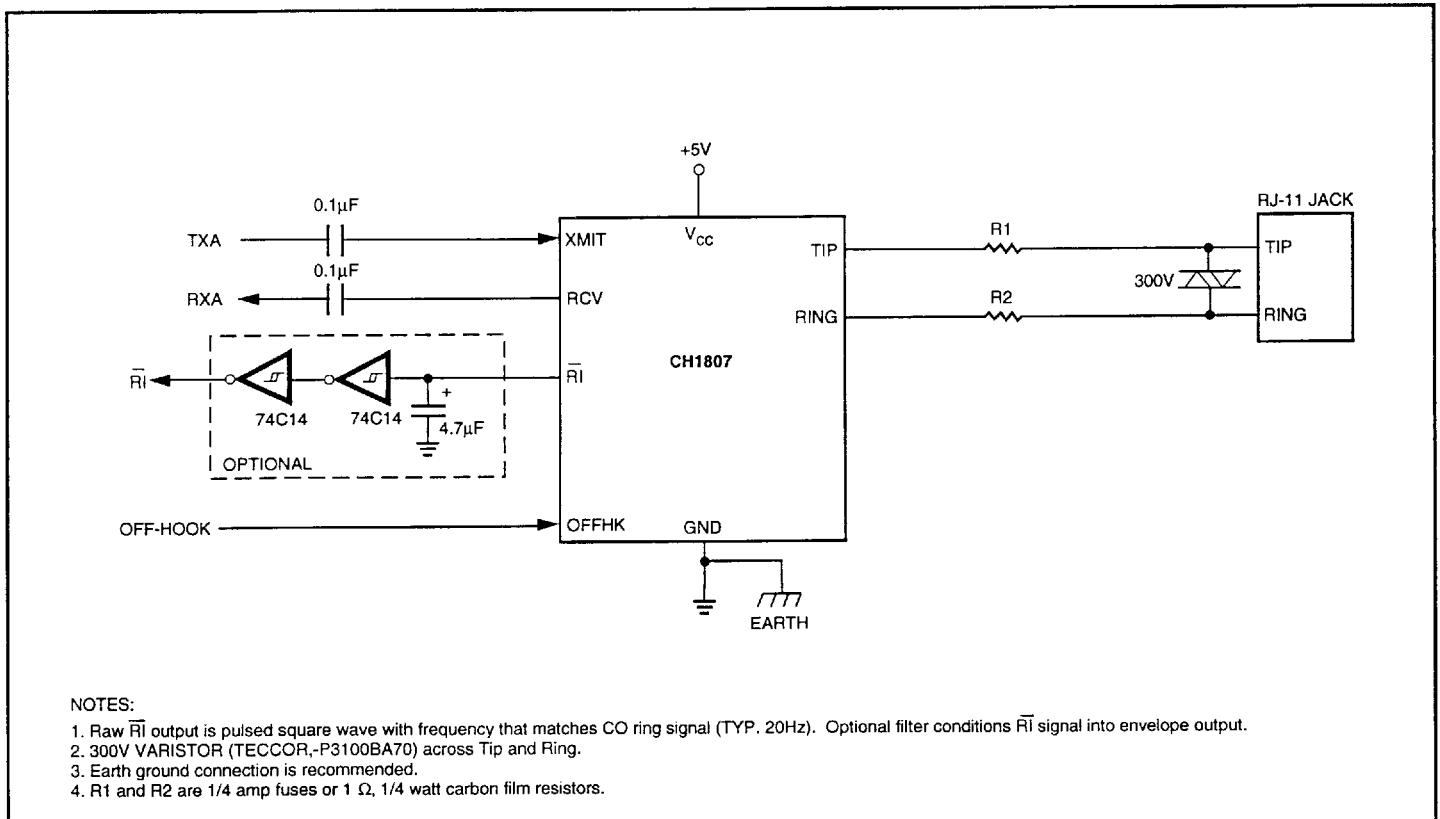

Figure 2. Typical Application
The outgoing DTMF signal to be transmitted through the phone line should be applied to the XMIT pin (with respect to GND) and must be AC coupled as shown in Figure 2. The DAA attenuates the transmit signal by 6.5 dB. Therefore, a transmit signal of 0 dB applied to XMIT will comply with the FCC Part 68 requirement for control signals of -6 dBm across Tip and Ring. The FCC does not currently maintain specific signal strength requirements for
- 7) The DAA as is meets or exceeds the hazardous voltage, surge and leakage requirements of the FCC. For applications that connect to Canadian phone lines, governed by the DOC (Department of Communications) and to further protect the DAA from field failure on excessively poor quality lines, a higher level of transient protection is required, thereby making mandatory the circuit consisting of two fuses and one varistor as shown in Figure 2. Adding these three devices will not affect FCC registration.